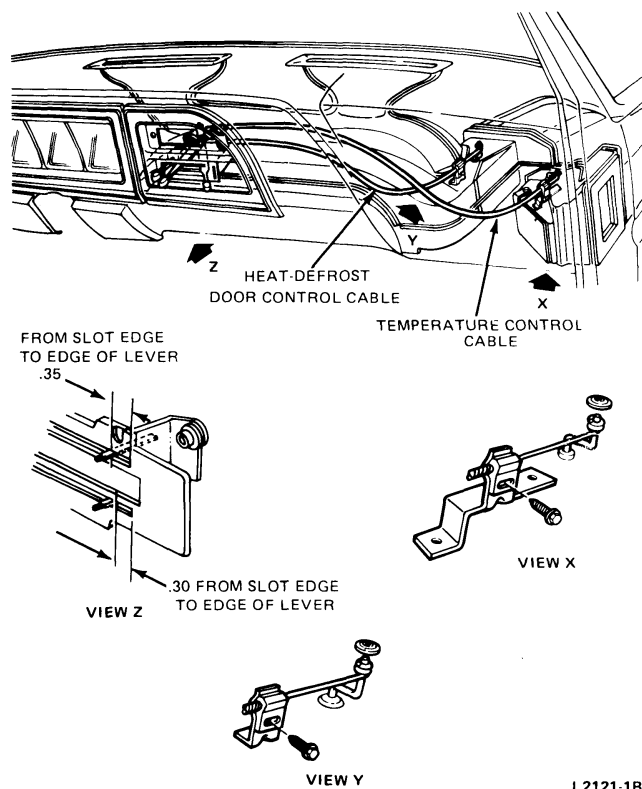

FIG. 3 Control Cable Installation and Adjustment
In the "Off" control position (Fig. 1), the Heat-Defrost door is closed (cable controlled) (Fig. 3).
An adjustment slot is provided on each control cable at its attachment to the heater outlet to floor duct and heater air inlet duct (Fig. 3).
1. Rotate the heat-defrost door crank arm to the full clockwise position (Fig. 3).
1. Rotate the temperature door crank arm to the full clockwise position (Fig. 3).
7. Adjust the control cables as described under Adjustments, also see Fig. 3.